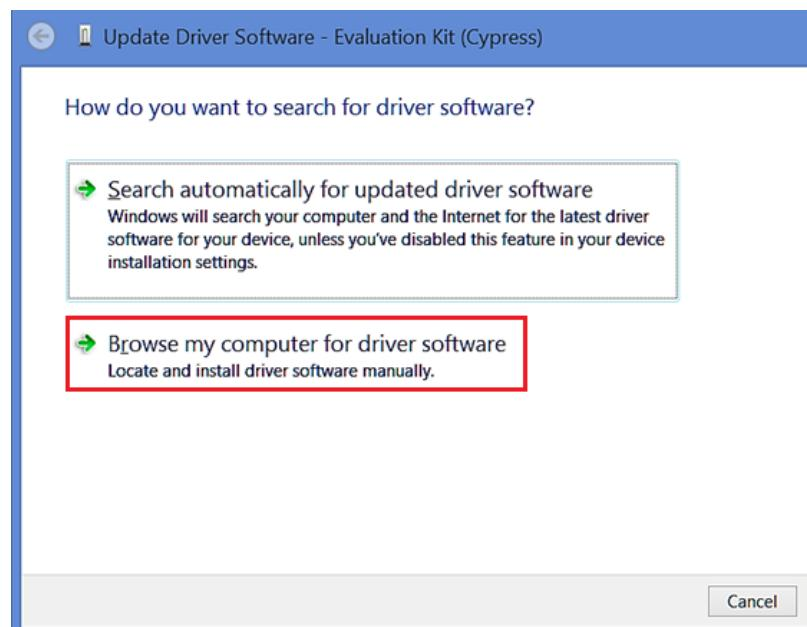

Figure 15. Update Driver Software - 1
4. Right-click the “Evaluation Kit (Cypress)” item, and choose “Update Driver Software …” A new window should open. Select “Browse my computer for driver software” (Figure 15)